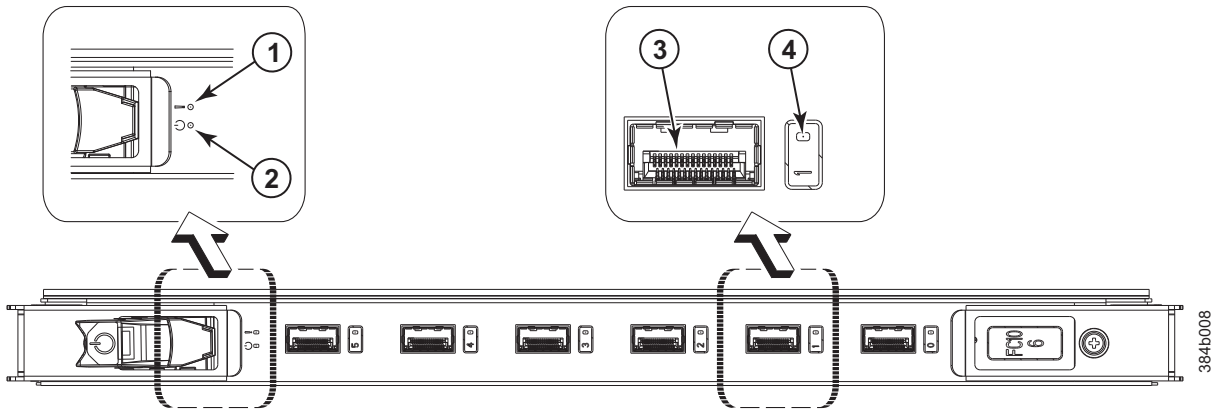

Figure 22. FC10-6 port blade
- Figure 22 on page 48 illustrates the FC10-6 port blade